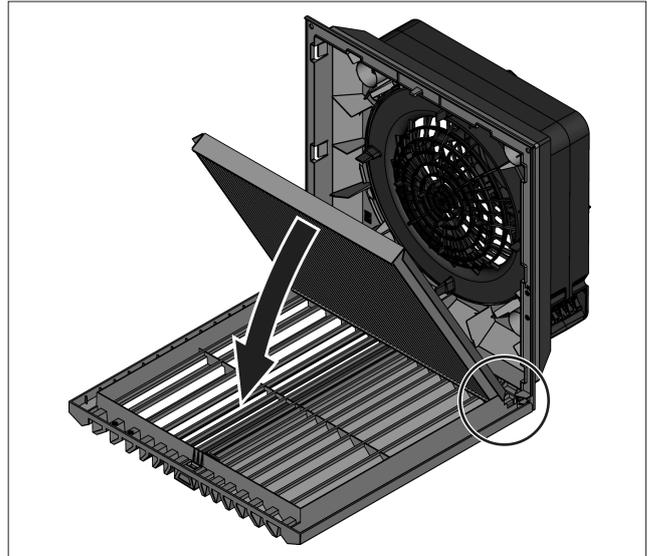

Fig. 13: Installing the IP 54 pleated filter
- Place the pleated filter in the louvred grille. The "Top" logo indicates the insertion direction (see fig. 13).